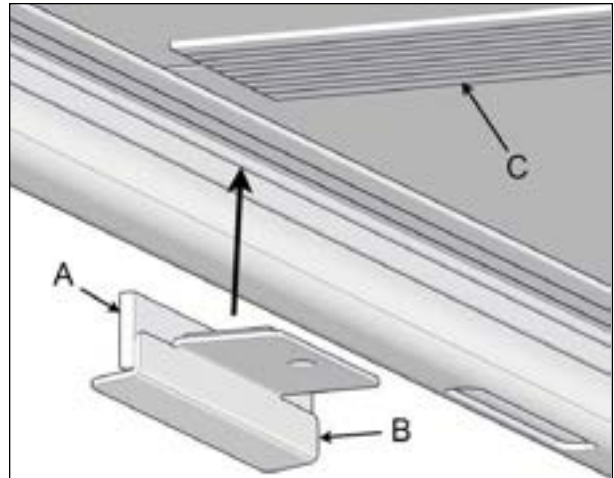

FIGURE 69: WIPER LOCATION
3. Under the cover, locate an I-beam and orientate the wide flap of the wiper outwards of the cover see Figure 69.